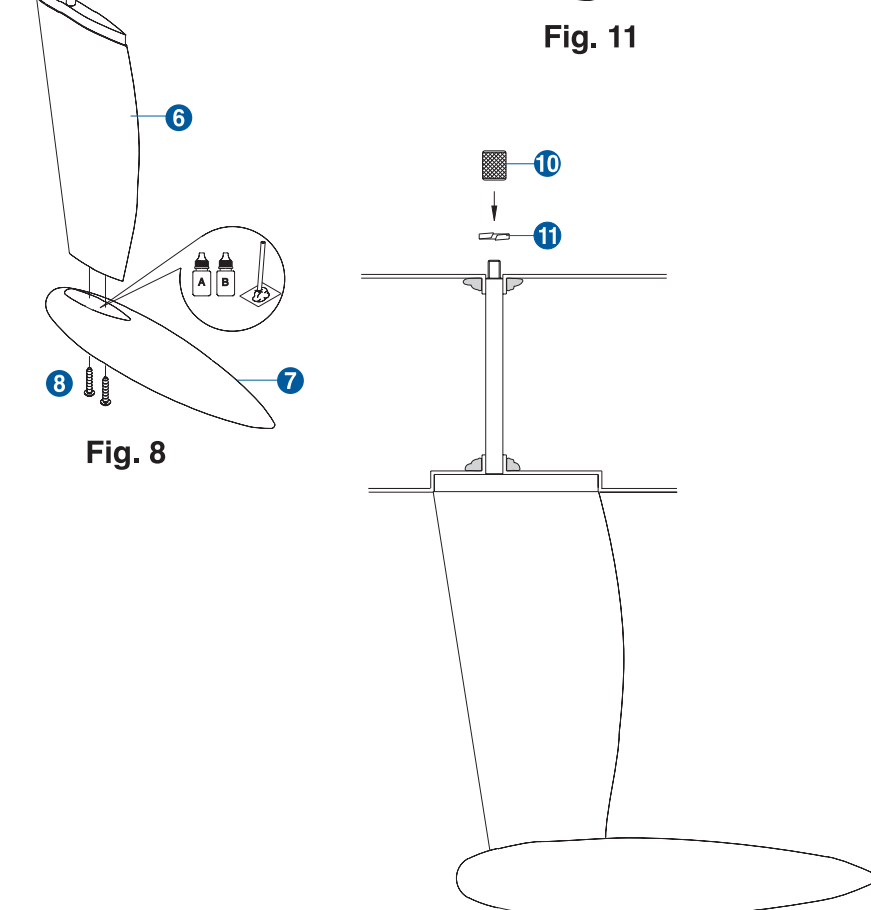

Fig. 11
6. Locate the Rudder Tube **13** and Plastic Bushing **14**. Trial fit into the hull where indicated in Fig. 11. When satisfied, remove the tube then apply epoxy to the tube as shown, taking care not to get any epoxy on the inside of the tube. Insert the tube in place then secure the bushing to the hull using ABS glue.